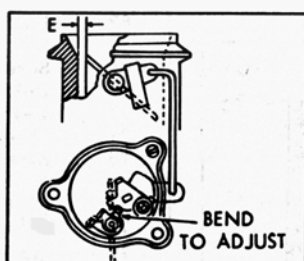

FIGURE 6
- Figure 6. Hold choke valve closed lightly, then open throttle to wide-open position. The distance "E" between choke valve and air horn wall should be as listed in table. Make sure all parts are held so that slack will be removed from linkage. To adjust, bend cam contact lever ear as shown.
UNLOADER ADJ. Fig.6